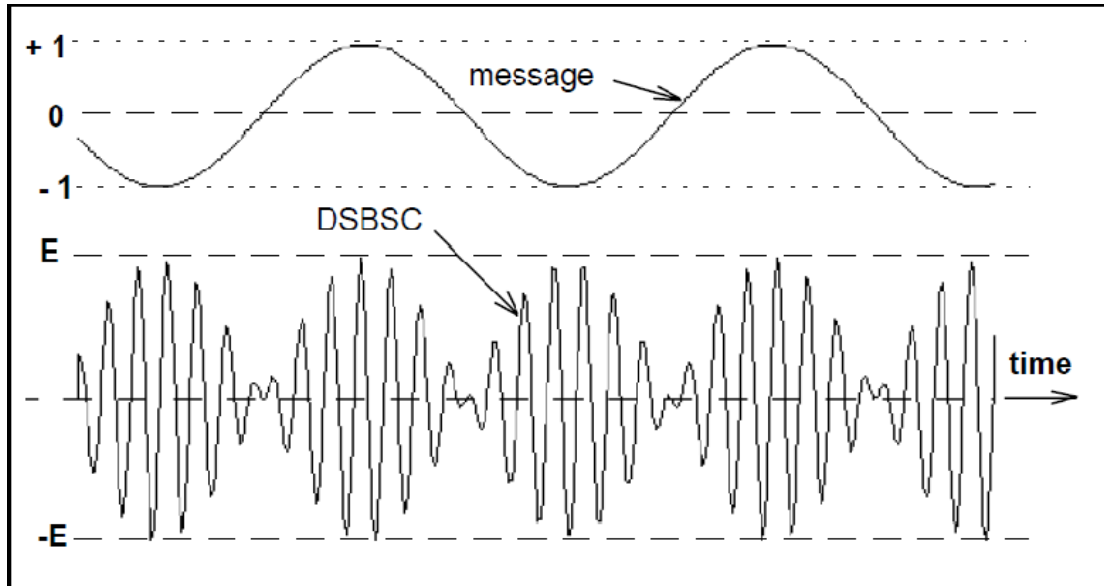

Figure2: DSBSC –seen in the time domain
The time domain appearance of a DSBSC (eqn.1) in a text book is generally as shown in Figure 2.
Notice the waveform of the DSBSC in Figure 2, especially near the times when the message amplitude is zero. The fine detail differs from period to period of the message. This is because the ratio of the two frequencies  $\mu$  and  $\omega$  has been made non-integral. Although the message and the carrier are periodic waveforms (sinusoids), the DSBSC itself need not necessarily be periodic.
- (e) The 180 phase reversal causes the positive (or negative) side of the envelope to have a shape different from that of the message signal, see Figure 2.